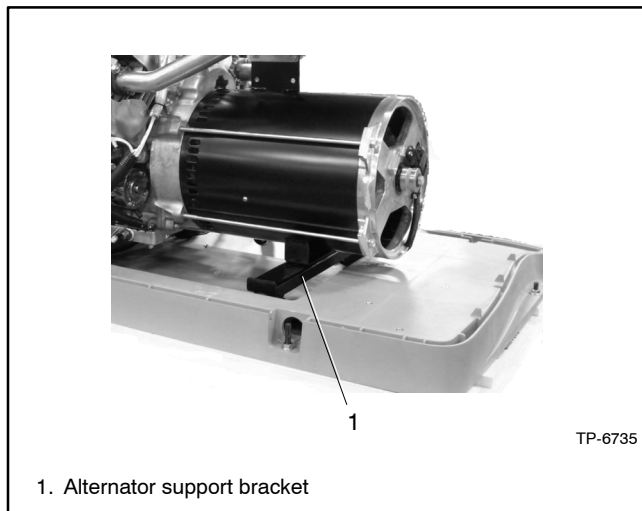

Figure 6-13 Alternator Support Bracket
23. Remove the alternator support bracket from the alternator shell. See Figure 6-13.